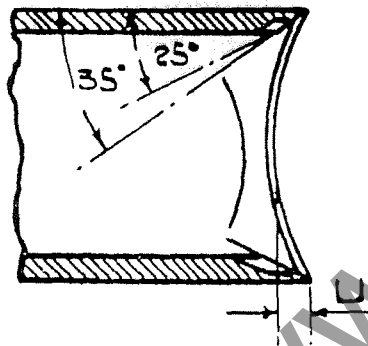

Fig. 8
The CHISEL must be sharpened on the inside only and the cutting edges should be shaped to give a curve, shown at Fig. 8, and maintained in a shape as new. Never file the outside as this will reduce the size of the mortise. The bevels of the cutting edges must meet exactly at the corners. The depth "U" from the corner point to the curve at the centre should be about one-eighth the diameter of the size of the chisel. The cutting edges must be as short as possible and filed to an angle of about 35°, as shown at Fig. 8. The part behind the cutting edges must then taper off to an angle of 25°. It is recommended that the special Tool illustrated overleaf is used to ensure the correct angle on all four cutting edges of the chisel.
2. Place chain on anvil block fig. 8 and drive a little with "first breaking punch" on each rivet, allowing both to be driven out together with bottom side link.